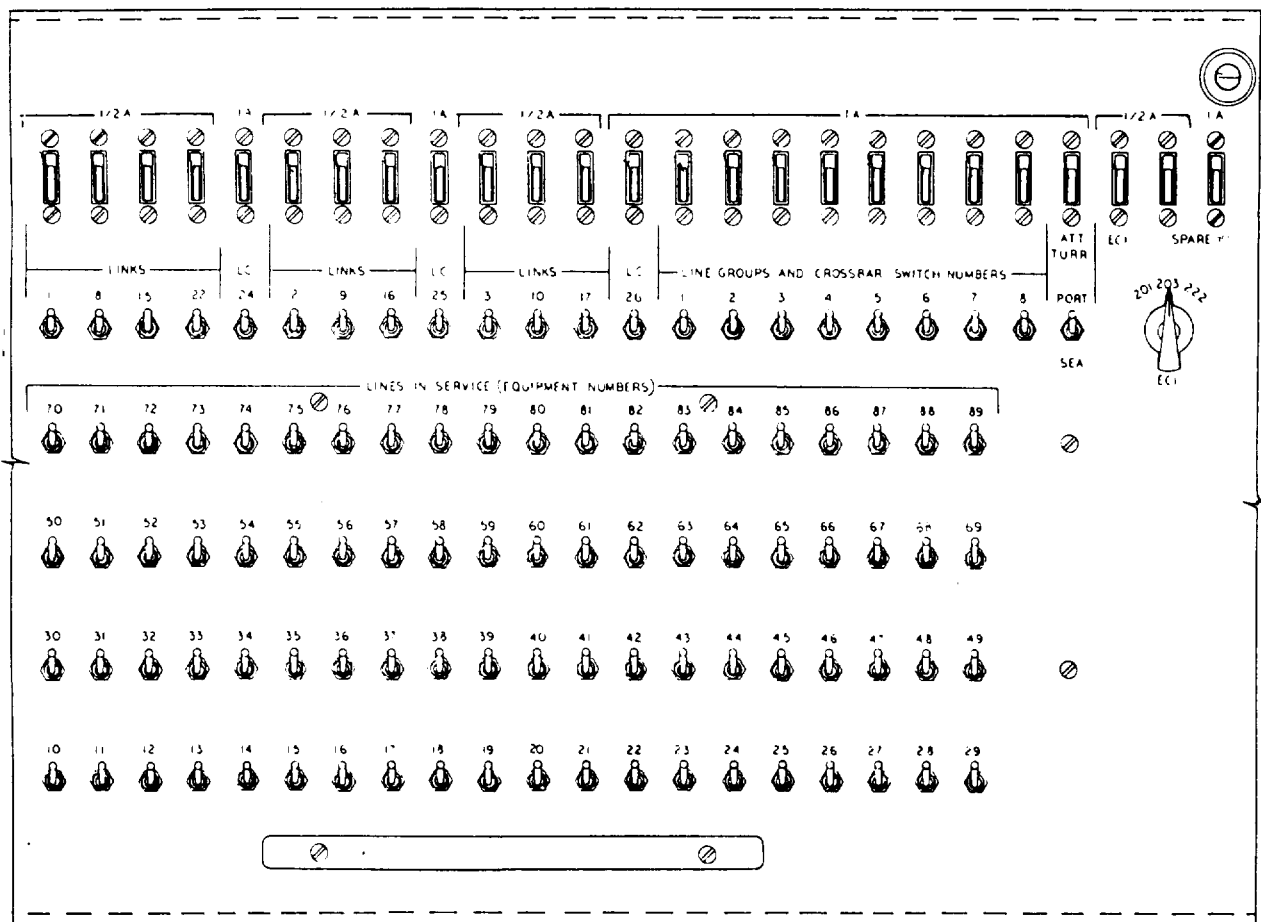

Figure 6-19.—Switch and fuse panel for the 100-line switchboard, cabinet 1.
**Switch and Fuse Panels.**— The switch and fuse panel in cabinet 1 contains alarm-type indicating fuses, equipment enable (in-service)/disable (out-of-service) switches, the attendant's cabinet enable switch, and the emergency cut-in selector switch. Figure 6-19 is an illustration of the switch and fuse panel for the 100-line switchboard located in cabinet 1.